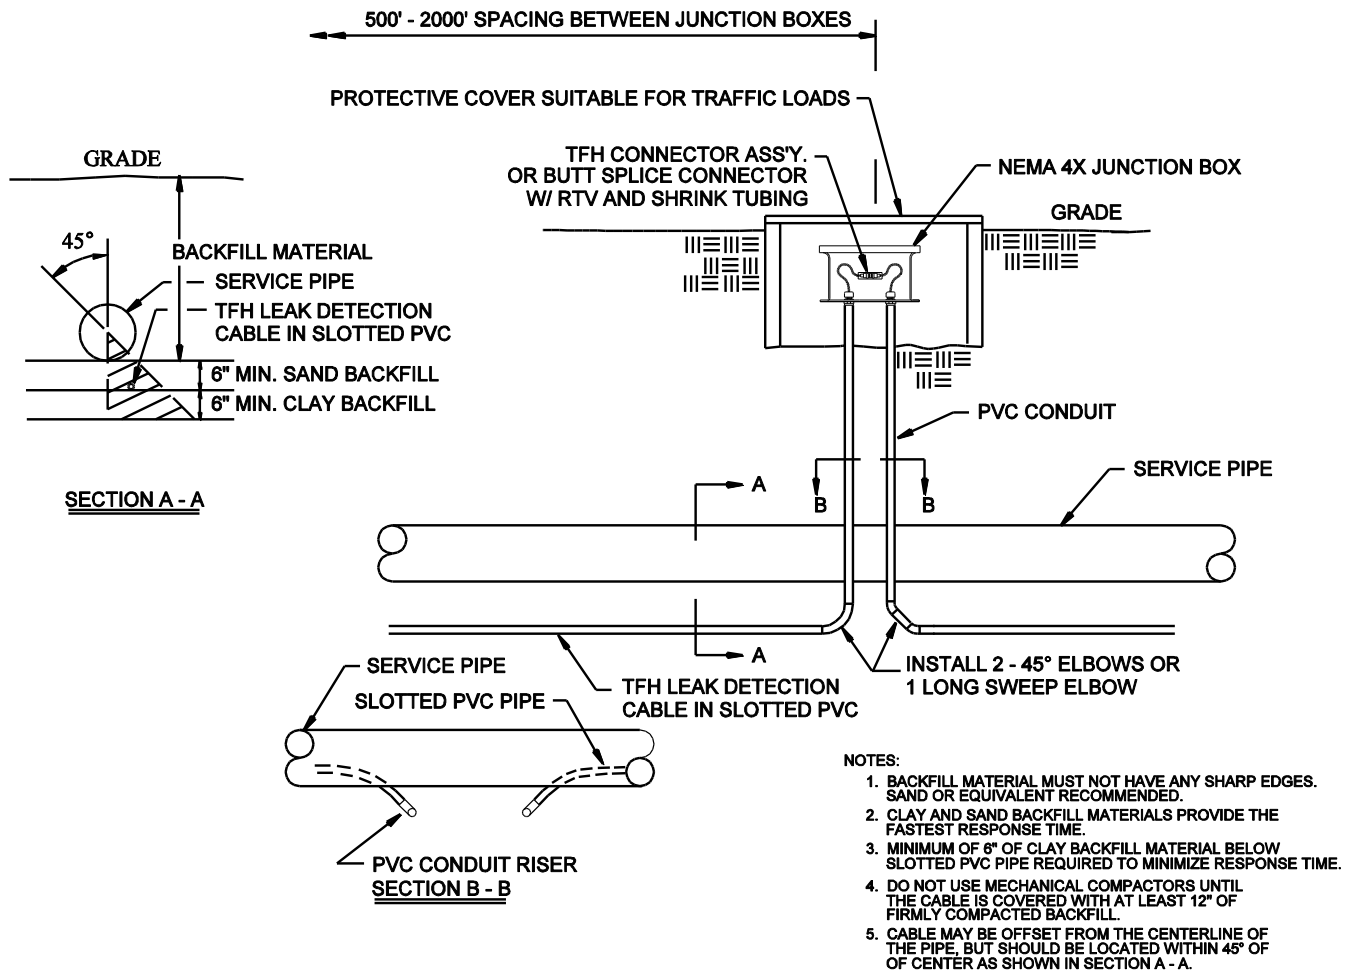

Figure 13
8. All connectors of sensor cable must be located in junction boxes at or above grade. A vertical riser of PVC conduit or other material suitable for the project must be installed to provide protection to the cable through the backfill and into the junction box (see Figure 13). Follow the instructions for installing cable connectors using shrink tubing and RTV sealant to insure a watertight assembly.